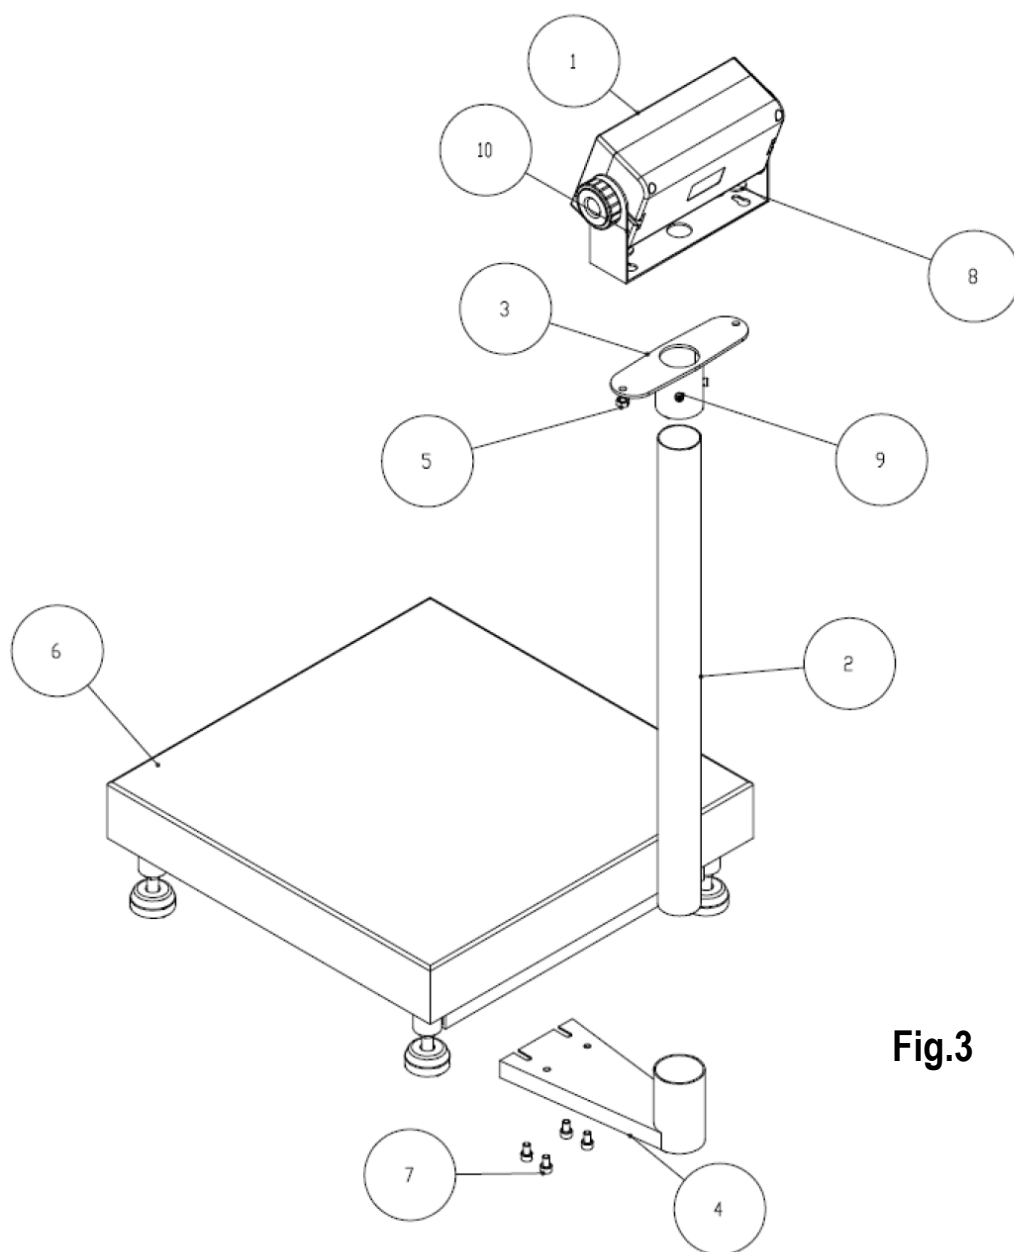

Fig.3
2.3 MONTAGE PB+PBCL...+PBCLST+DFWLI (WALL-E) (FIG.3)